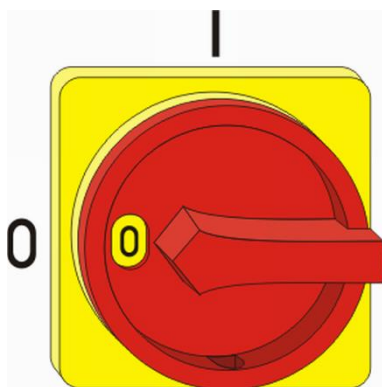

Fig. 29: Main Switch
1. Turn the main switch to the "0" or "Off" position (Fig. 29).